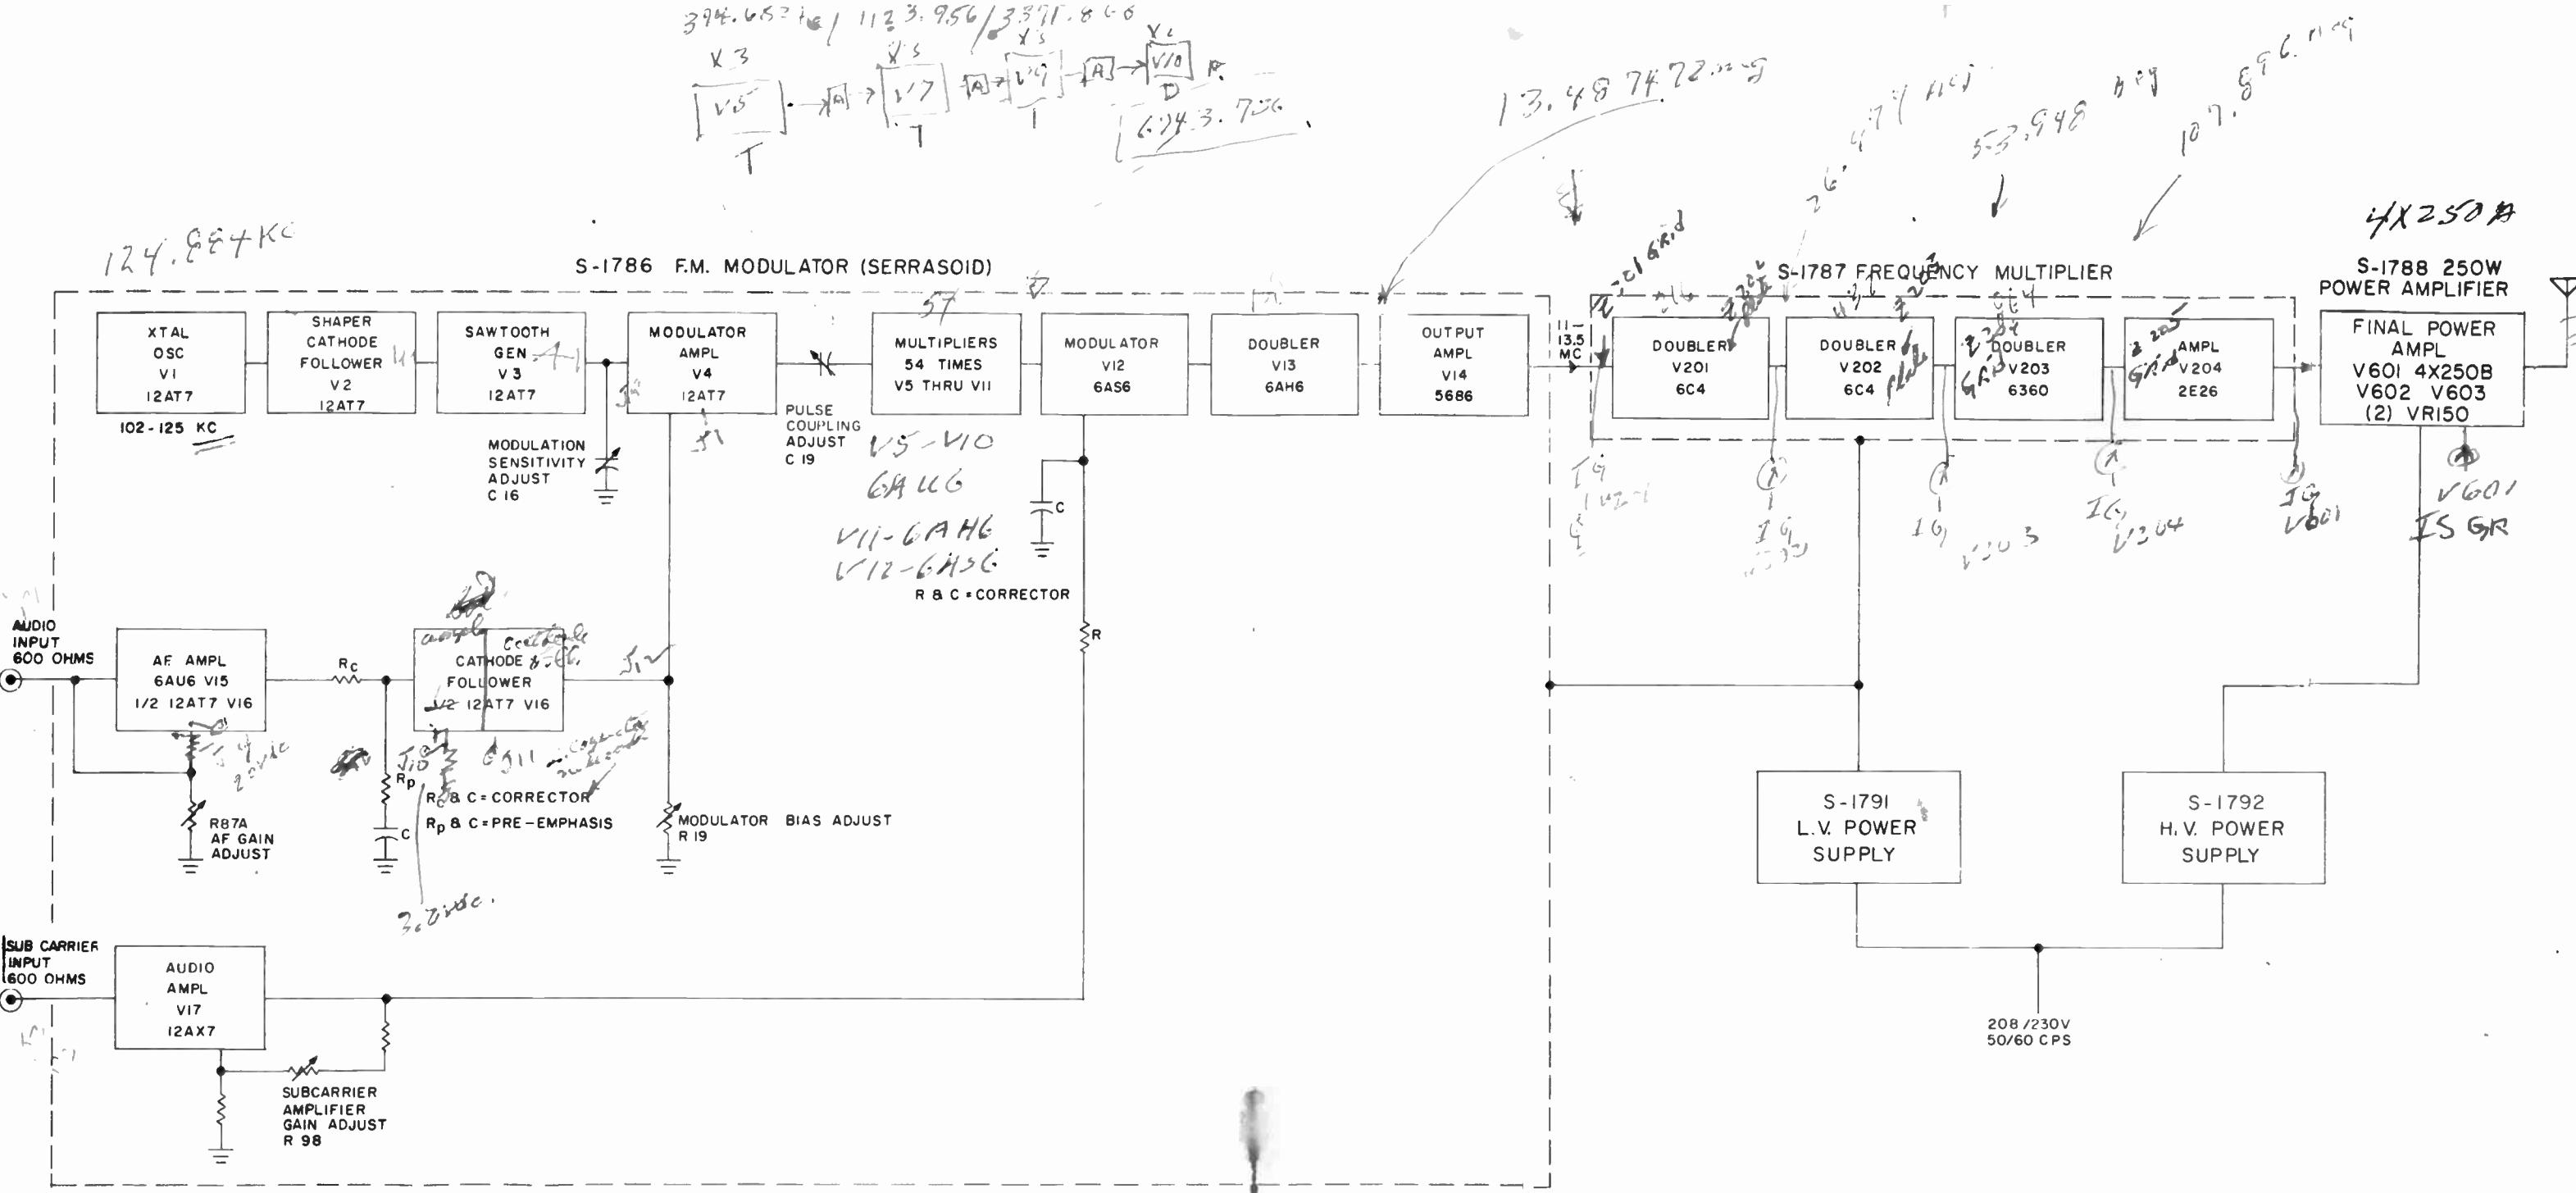

Figure 4-1 Type 930 F.M. Multiplex Transmitter, Block Diagram
- 4-4. The Type 930 F. M. Multiplex Transmitter may be divided into three sections exclusive of the power supplies. See block diagram Figure 4-1.